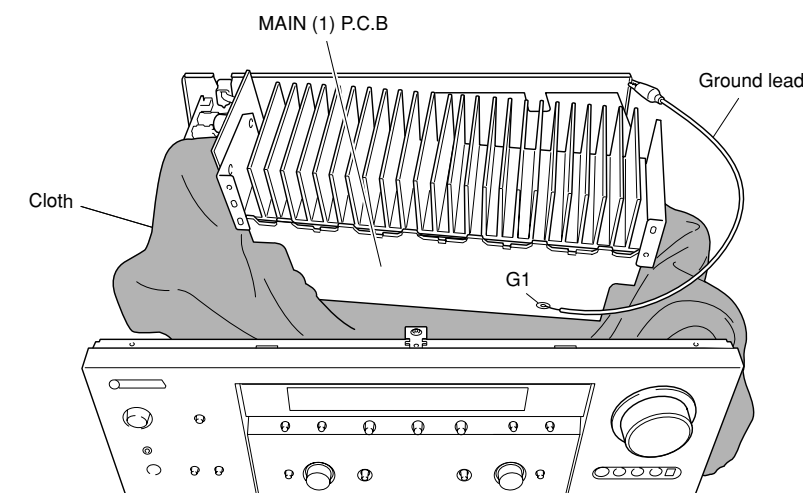

Fig. 8
- Put a Cloth over the equipment. Put the MAIN (1), (5), POWER (1), (2) and SUBTRANS (4) P.C.B.s together with the heat sink upright on the Cloth and check them. (Fig. 8)